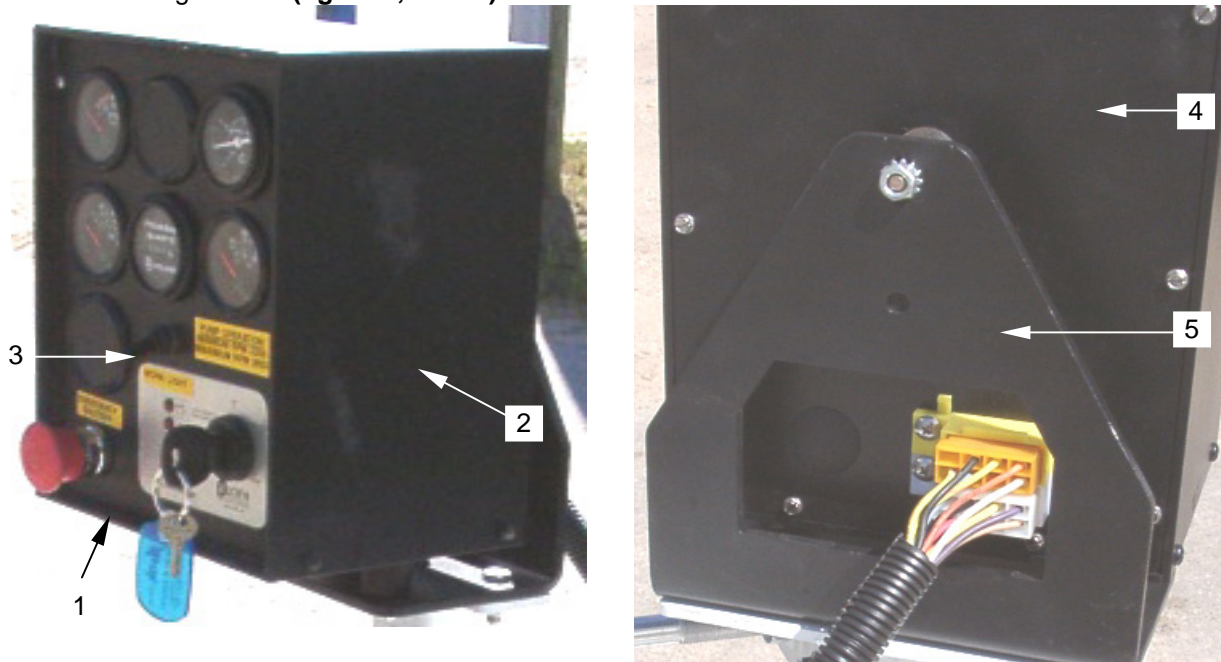

Figure 1. Control Panel
The control panel (**figure 1, item 1**) can be repaired by replacing the basic enclosure (**figure 1, item 2**), the faceplate (**figure 1, item 3**), the backplate (**figure 1, item 4**), or the mounting bracket (**figure 1, item 5**).